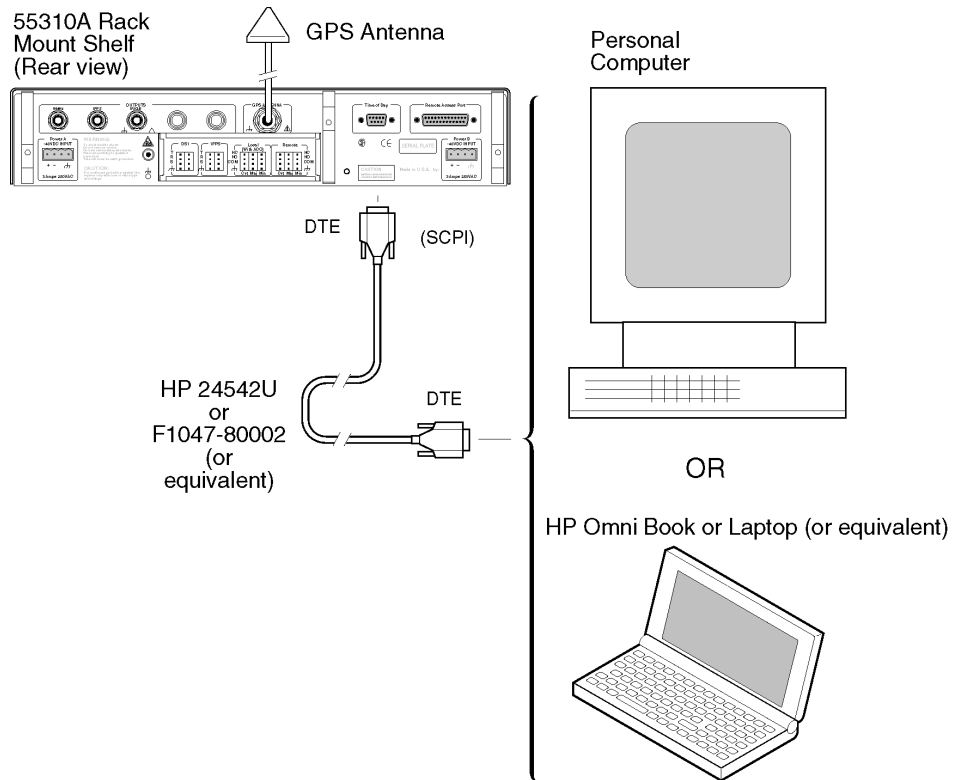

Figure 2-6B. Connecting the 55310A/55320A/55322A to a PC or Laptop to Use SCPI Commands for Communication (55310A shown)
*If you are going to communicate with the unit using SCPI commands, connect the unit to a PC or laptop via the rear-panel **TIME OF DAY** RS-232 port using an HP 24542U (or equivalent) (9-pin female to 9-pin female) or HP F1047-80002 (or equivalent) (9-pin female to 9-pin female) interface cable (or whichever cable is appropriate for your PC or laptop) as shown in Figure 2-6B.*